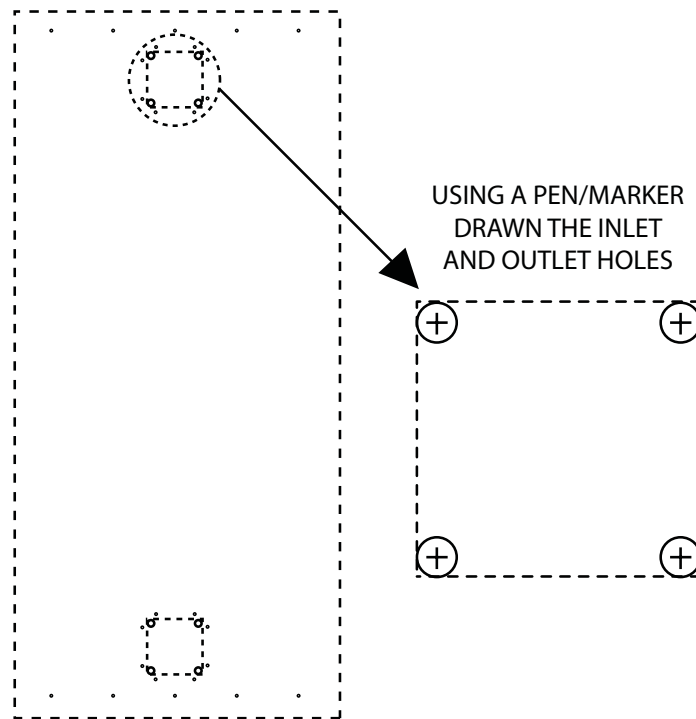

Figure 10. Pre-marking your inlet and outlet holes.
c. Once all of the holes have been drilled, remove the template. Using a pencil/marker and a ruler/straight edge, draw straight lines connecting the outer edges of the holes as shown in Figure 10.